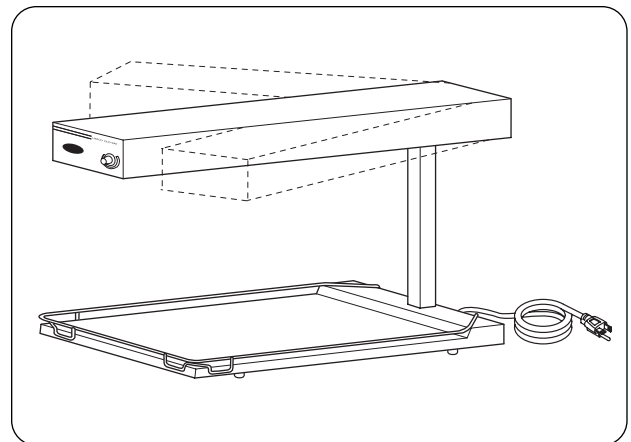

Figure 6. Swing-Away Top
*NOTE: GRFFB and GRFFBL models are equipped with a swing-away top to provide fast easy access to food product. (See Figure 6.)*